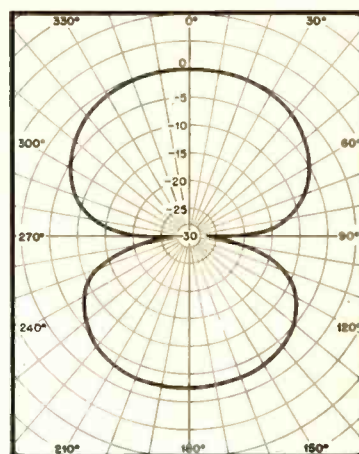

Fig. 5. Directional characteristics of KB-3A microphone.
microphone discriminates against a distant source in favor of a close source by values ranging from 6 db at 1000 cps to 30 db at 100 cps for the equal sound pressures at the microphone element. In addition, because of the directional pattern shown in Fig. 5, the discrimination against random noise is better than the above values by an additional 5 db. The net result is shown by the curve at (3) in Fig. 4.